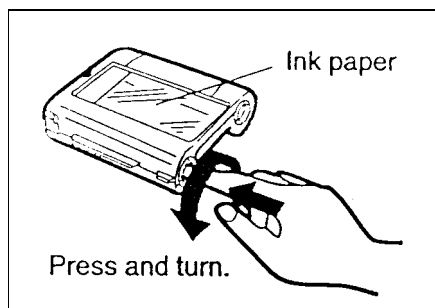

Figure 6-18. Removing Slack from Ink Cartridge Paper
3. If you see any slack in the ink cartridge paper, press in the takeup spool and turn it to remove the slack (Figure 6-18).